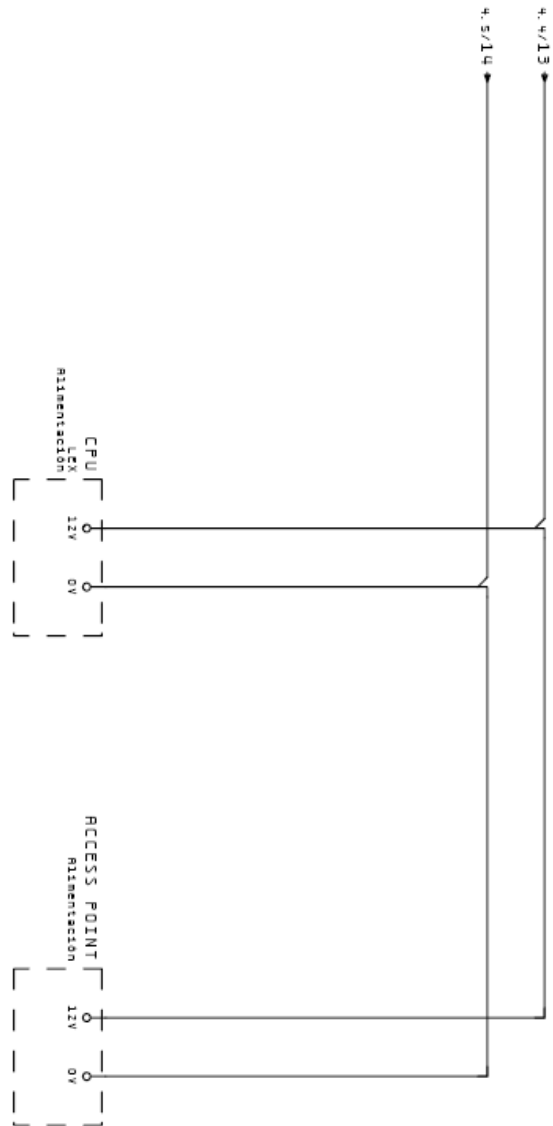

Figure 31: Components Power Supply Drawing
- Figure 31 *Components Power Supply Drawing*